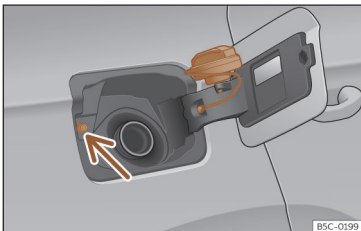

Fig. 193 Fuel tank flap with tank cap attached.
- Place it in the space on the hinge of the open flap >>> **Fig. 193**.
Avoid touching the fuel tank flap lock button >>> **Fig. 193** (arrow). The system will interpret that you have finished and cannot continue refuelling. Press the  button on the driver's door again to continue.